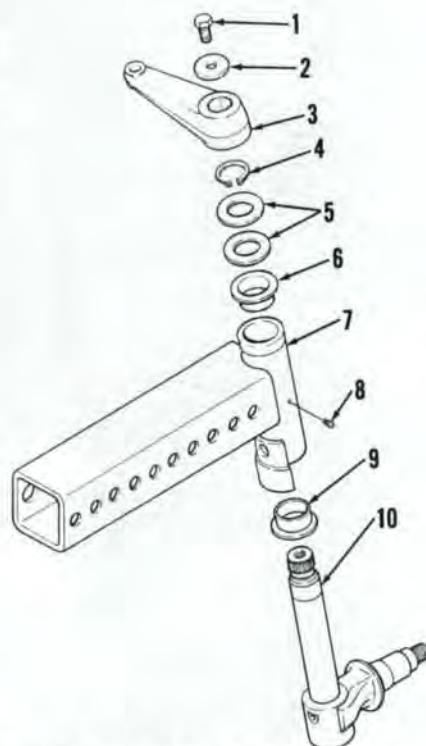

Fig. 2—Exploded view of steering spindle assembly typical of all models.
2. R&R SPINDLES. To remove spindle, lift and support front of tractor and remove wheel. Disconnect tie rod ball joint from steering arm (3—Fig. 2). Remove bolt (1) and washer (2) from arm (3). Note index punch marks on arm and shaft indicating location of tapered splines for left or right steering arm, then remove steering arm. Support spindle and remove snap ring (4) and shims (5), then remove spindle (10) from axle extension (7).
3. SPINDLE BUSHINGS. With spindles removed, spindle bushings (6 and 9—Fig. 2) can be removed using a suitable drift punch. New bushings are presized and should not require reaming if carefully installed. Press new bushings into axle ends until bushing flange seats against surface of axle ends.